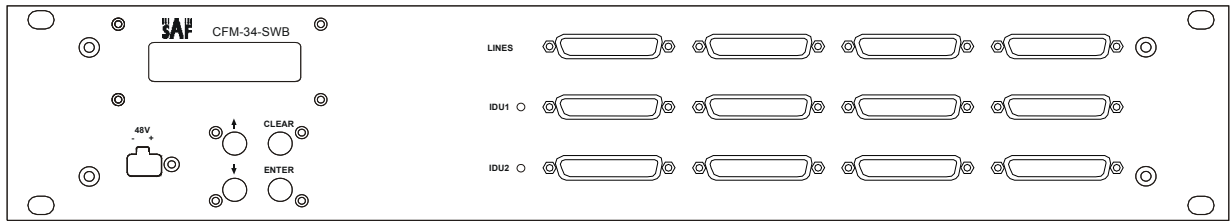

Figure 3. The CFM-34-SWB IDU with DB-25 E1 port connectors (4 E1 ports per one DB25 connector)
- With DB25 traffic port connectors, 4 E1 ports per DB25 connector (Figure 3)